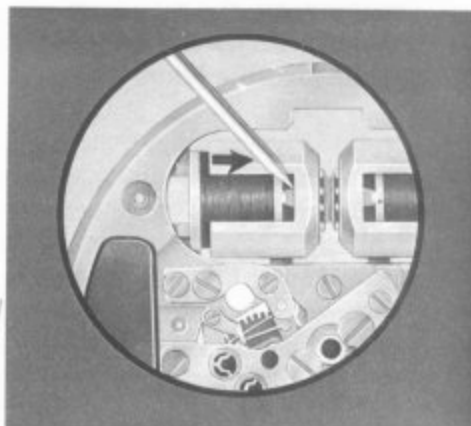
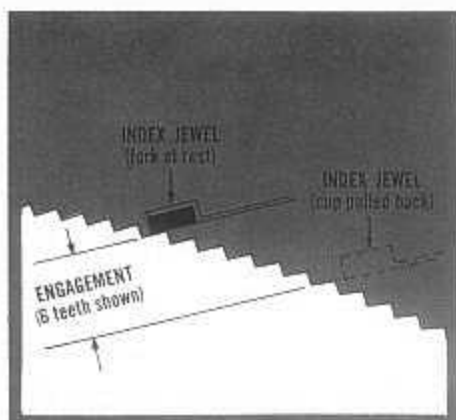

Fig. 12
Fig. 13
4. Check the engagement of the index jewel by pulling back the tine of the tuning fork to which the index finger is attached (see Fig. 12). Count the number of teeth the index jewel "drops off" before index jewel pulls away from the wheel (see Fig. 13). THE JEWEL SHOULD DROP OFF 5 TO 8 TEETH. If the number of teeth is smaller than 5 or greater than 8 the engagement can be modified by gently bending the
index finger (and stress limiter) near the end where it is planed, toward or away from the wheel, using the end of tweezers or a needle. (This operation is similar to that of bending a hair-spring near the stud.) After this adjustment, the engagement should be rechecked (see Fig. 13).